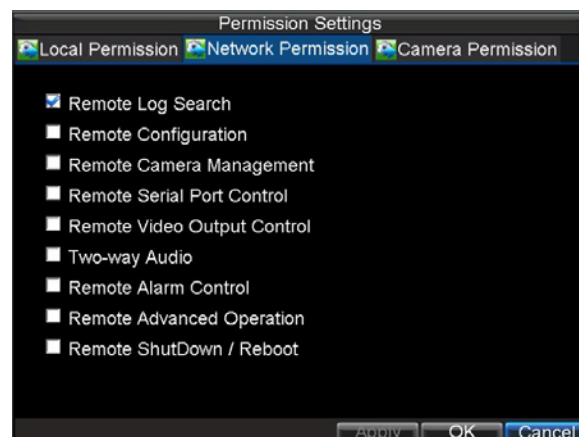

Figure7. Network Permission Settings Menu
7. Click on **Network Permission** tab to configure network permission settings, as shown in Figure 7. The network settings include: